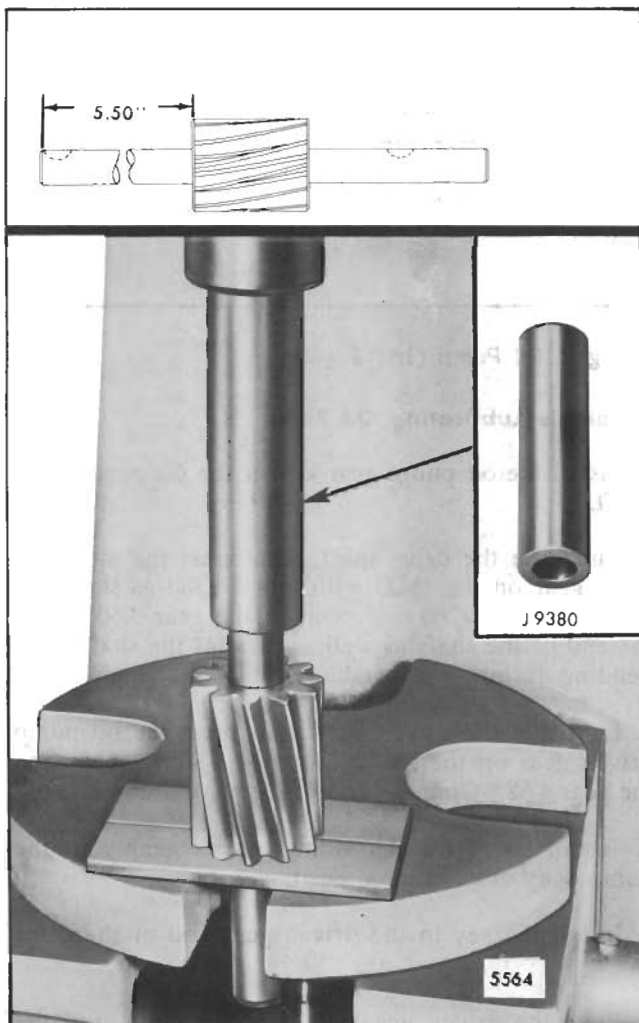

Fig. 8 - Installing Oil Pump Gear on Shaft
2. Lubricate the drive shaft, then press the oil pump drive gear on the shaft with tool J 9380 as shown in Fig. 8. Tool J 9380 will position the gear 5.50" from the end of the shaft as well as prevent the shaft from bending during gear installation.